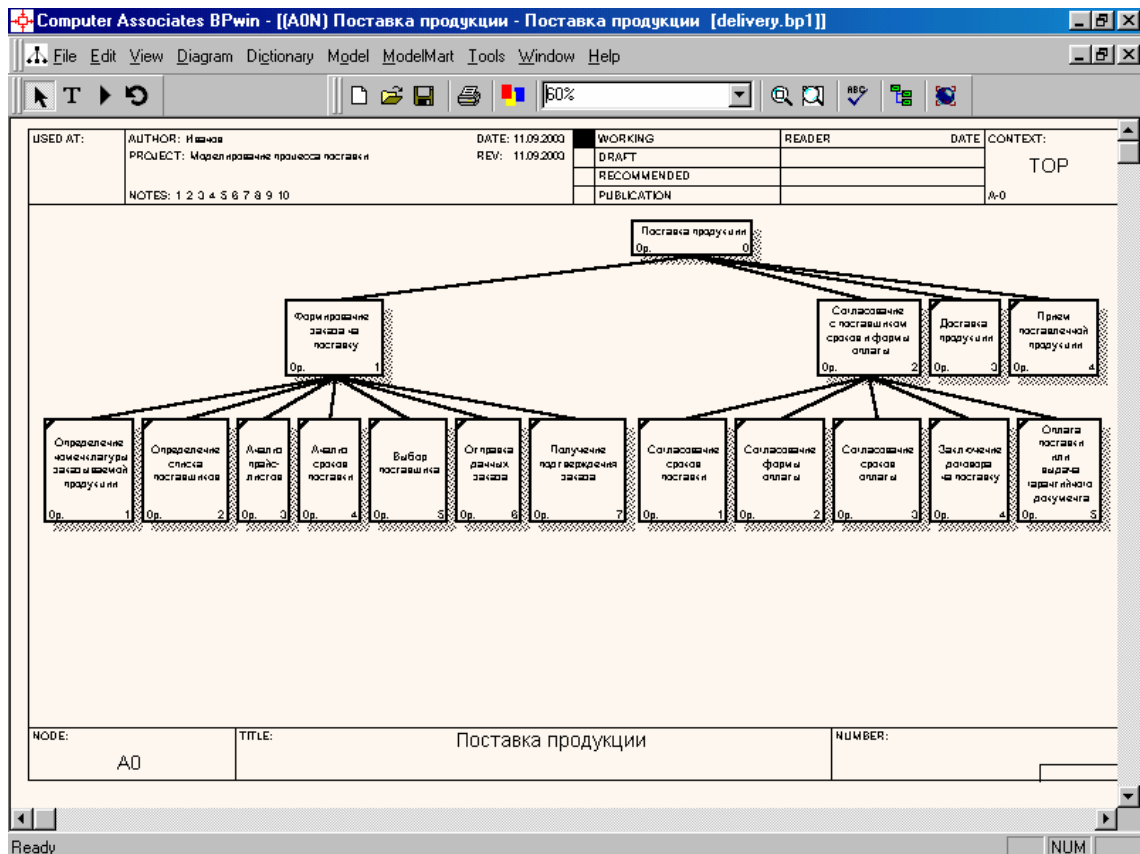

Figure 1.14
2. Click the "Finish" button, which will display a chart, the appearance of which is shown in Figure 1.14.